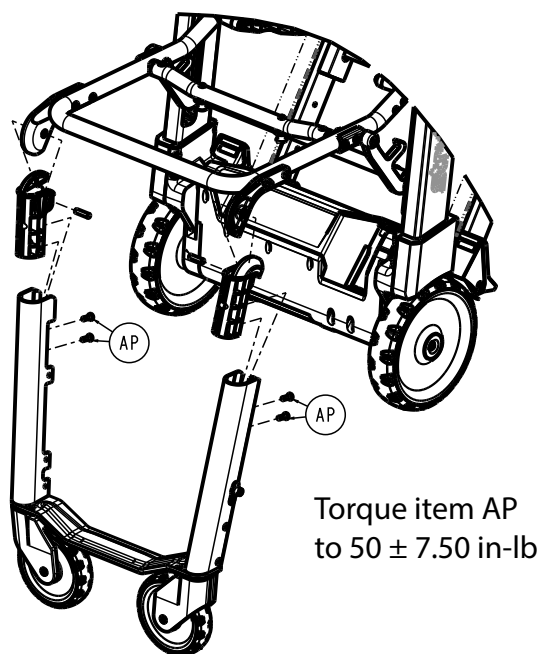

Figure 20 –
7. Using a T20 Torx driver, remove the four pan head thread forming screws (AP) that secure the leg assembly to the leg pivots (Figure 20). Save the screws.
**Note** - Using a torque wrench, torque the pan head thread forming screws (AP) to  $50 \pm 7.50$  in-lb when you reinstall.